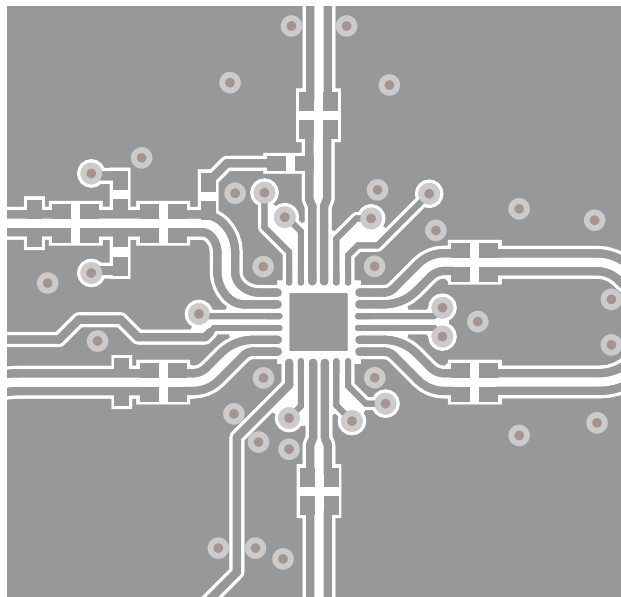

Figure 8-5. Layout Example, Top Layer
- Isolate inputs and outputs using a GND shield. Figure 8-5 routes all inputs and outputs as differential pairs.